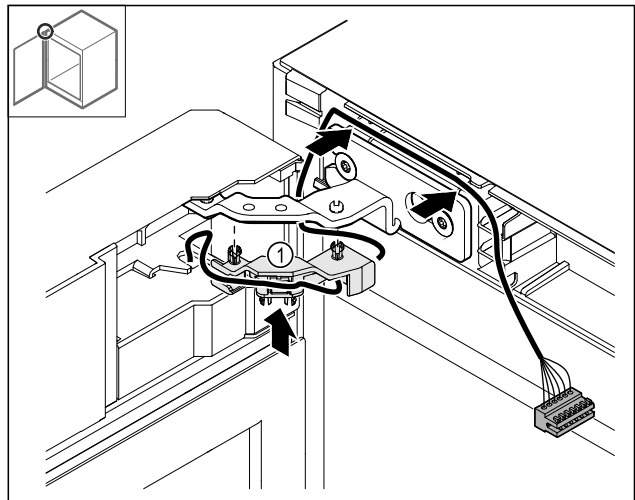

Fig. 45
- Push the cable holder Fig. 45 (1) into the hinge.